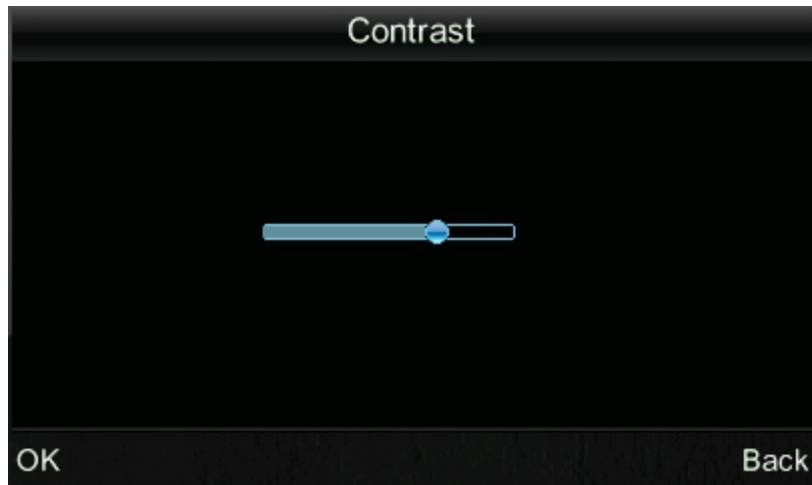

Figure 54 Brightness Setting Interface
- f) Select "Settings" - "Brightness Setting" to enter an interface shown in Figure 54. This interface is used to set the backlight brightness to help users to use this instrument in different environments.